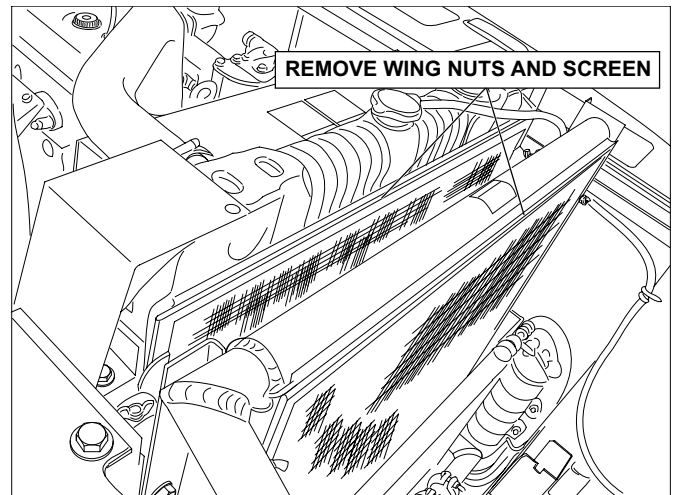

FIGURE 4.27B
2. Remove the wing nuts retaining the debris screen. See Figure 4.27B. Carefully remove debris screen and clean with pressurized water.